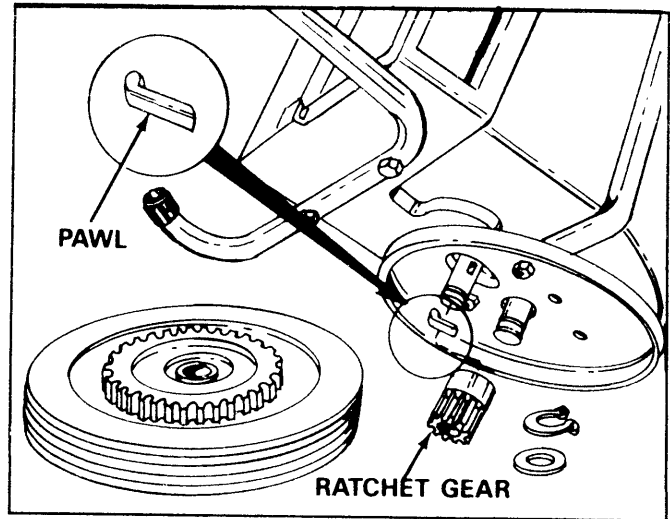

FIGURE 13
2. The pawl, inside ratchet gear, has a curved end (side) and a flat end (side). See figure 13. When re-assembling ratchet gear and pawl, fill the inside with grease. Re-assemble the wheel and turn wheel, if the brushes drive (rotate) in both directions, the pawl is assembled **incorrectly**, remove and flip pawl over. If the brushes drive (rotate) in one direction the pawl is assembled correctly.